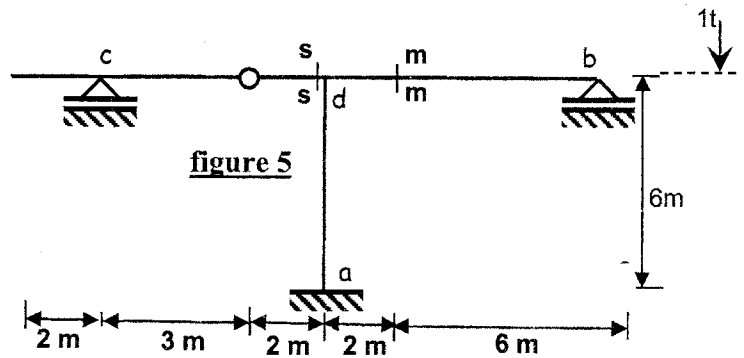

figure 5
For the structure shown in figure 5, construct the influence lines of the reactions at supports a and b. Also construct the influence lines of the straining actions (N, Q, and M) at the sections s-s and m-m.
C) Figure 5 shows the layout of panelled beams covering an area of 9.0 x 12.0m. The slab is subjected to L.L. = 5kN/m2 and cover = 2.5kN/m2. The slab thickness is 100mm. The internal paneled beams have 250mm width and 600mm depth, where the external marginal beams have 300mm width and 1000mm depth. Make complete design (design + reinforcement detailing) for the beam BX1 only. (4Marks)